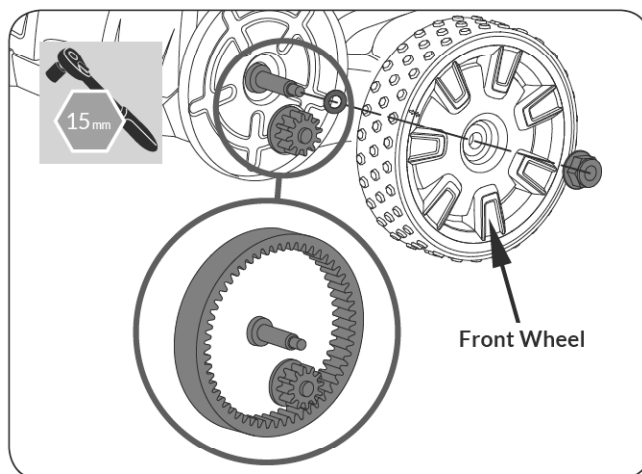

Figure 33
4. Assemble the new wheel with wheel nut and washer. (See **Figure 33**)